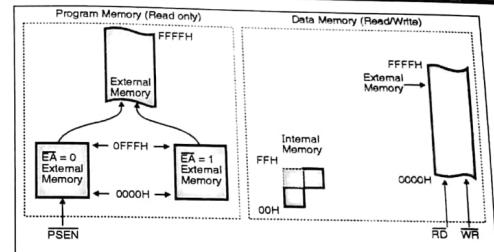

Fig. 3.2.1 : Memory structure of 8051
- Fig. 3.2.1 shows the basic memory structure for microcontroller 8051. It can access upto 64 KB of program memory and 64 KB of data memory. It has 4 KB of internal program memory and 256 bytes of internal data memory.